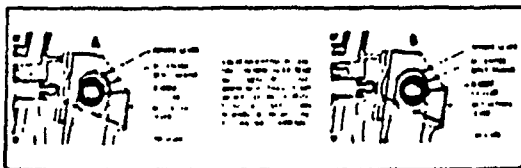

Fig. 51 Valve Adjusting Eccentric.
4. Turn the valve adjusting eccentric until the unit chatters when the pedal is depressed in a sharp and rapid applying movement. Then turn the eccentric until the chatter disappears. Do not turn the eccentric more than necessary or the unit cut-in will be excessively high. (see fig. 51)